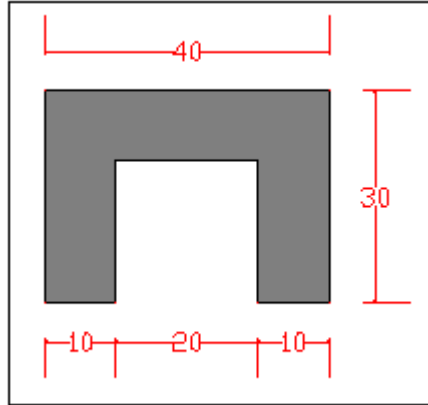

Figure 1: 'C' Shape
- b) Determine the tonnage that is needed to punch 'C' shape in **Figure 1** on a mild steel plate with a thickness of 5 mm and a shearing strength of 40 kg/mm². Show your calculations.